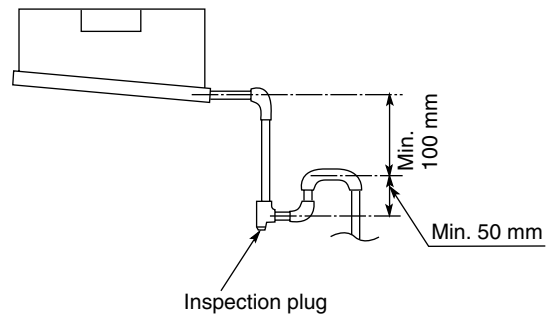

Fig. 3-175
- (5) Also, in another part of the pipe arrangement, prepare traps with an inspection plug to clean dirt or debris that may cause leaking of water. (Fig. 3-175)
- (6) After connecting the drain piping, slowly pour water into the drain pan to check that the water drains smoothly.